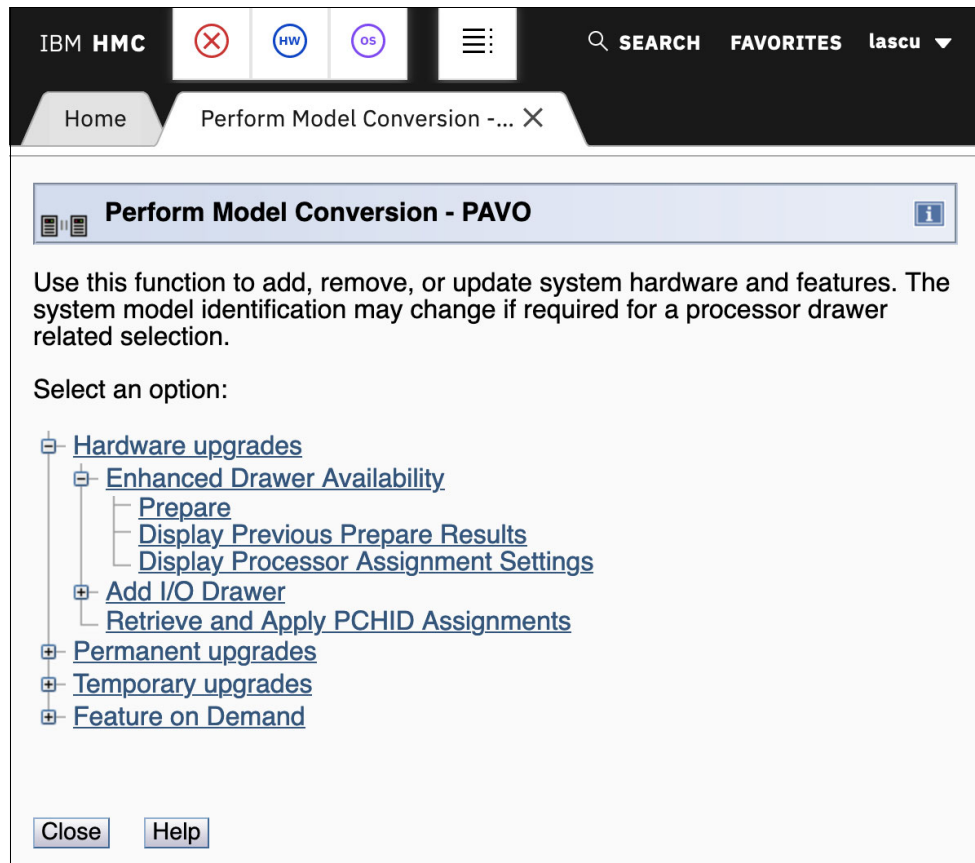

Figure 9-7 Clicking Prepare for Enhanced Drawer Availability option
For the EDA process, this phase is the preparation phase. It is started from the SE, directly or on the HMA, by using the Single object operation option on the Perform Model Conversion window from the CPC configuration task list, as shown in Figure 9-7.
The preparation step can be run without performing a drawer replacement. You can use it to dynamically adjust the operational configuration for drawer repair or replacement before IBM SSR activity. The Perform Model Conversion window in you click **Prepare for Enhanced Drawer Availability** is shown in Figure 9-7 on page 382.
5. Repeat the step that is shown in Figure 9-7 on page 382 to ensure that the required conditions are all satisfied.